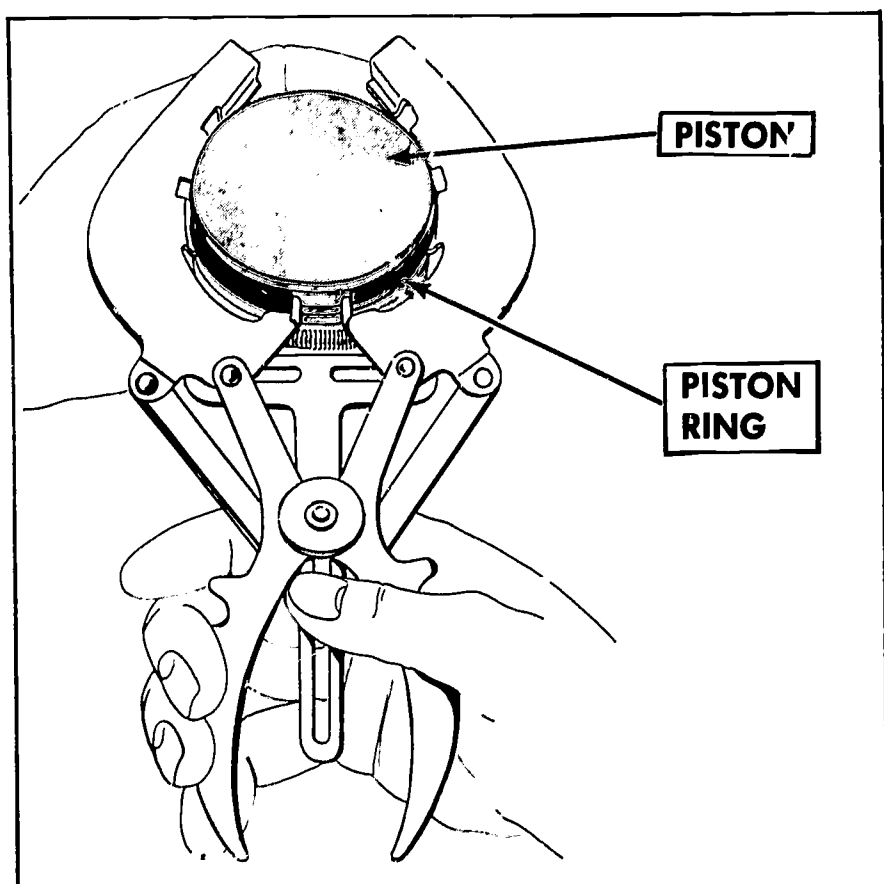

FIGURE 254. Removing piston rings with a ring expander.
3. *Remove the rings (Figure 254).*